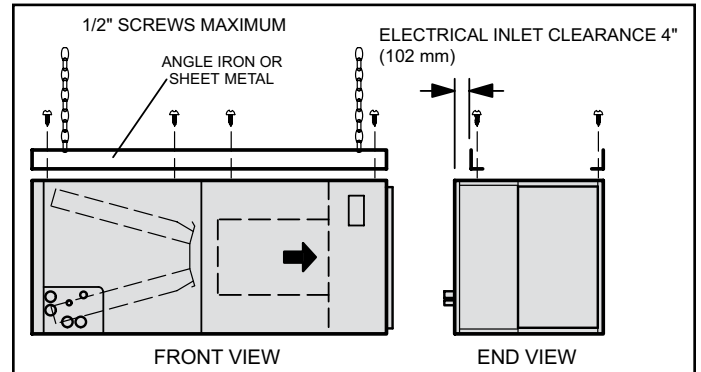

Figure 3. Suspending Horizontal Unit
2. If the unit is suspended, the entire length of the cabinet must be supported. If you use a chain or strap, use a piece of angle iron or sheet metal attached to the unit (either above or below) to support the length of the cabinet. Use securing screws no longer than 1/2" to avoid damaging the coil or filter as illustrated in Figure 3. Use sheet metal screws to connect the return and supply air plenums as required.
12. If suspending the unit, it must be supported along the entire length of the cabinet. If using chain or strap, use a piece of angle iron or sheet metal attached to the unit (either above or below) so that the full length of the cabinet is supported. Use securing screws no longer than 1/2" to avoid damage to coil or filter, as illustrated in Figure 3. Connect return and supply air plenums as required using sheet metal screws.